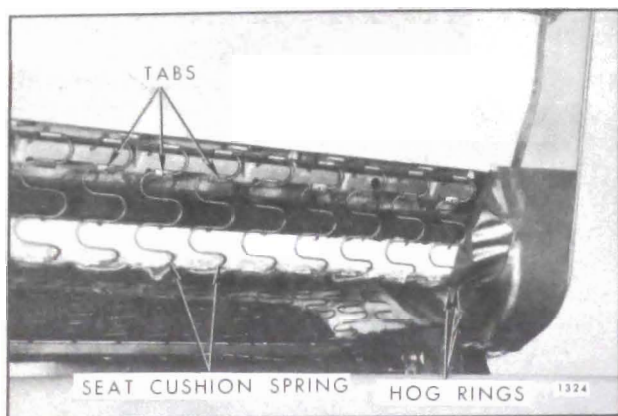

Fig. 15-16 — Seat Cushion-to-Back Spring Attachment
3. On "A-X & Z" body full width front seats, raise lower edge of seat back trim, detach cardboard breakover foundation and bend out tabs on seat back frame securing seat cushion springs (Fig. 15-16). Disengage springs from tabs.